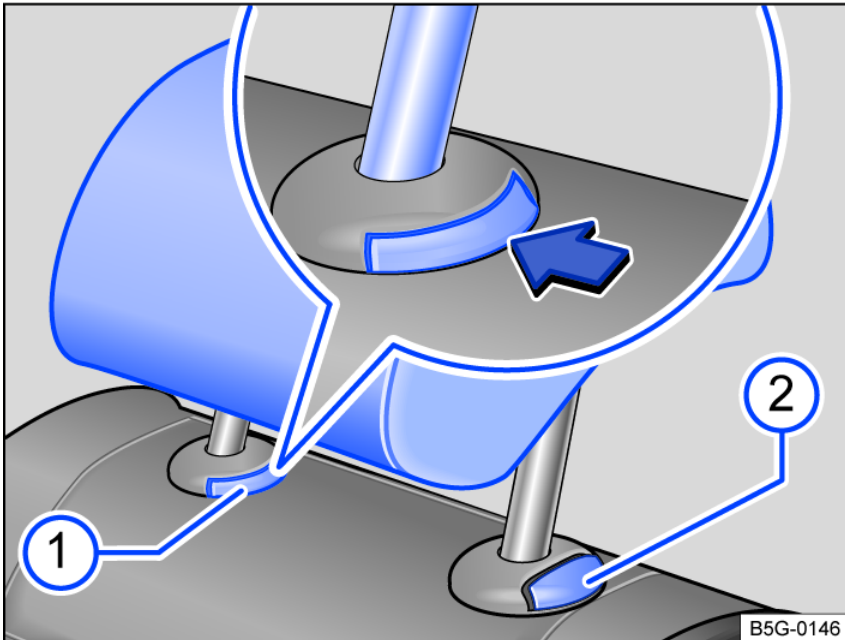

Fig. 75 Rear head restraint: removing.
- Press the button fig. 75 on the head restraint guide.
- At the same time, press button fig. 75 while a second person pulls the head restraint all the way out.
- Push the head restraint downward while pressing the fig. 75 button.